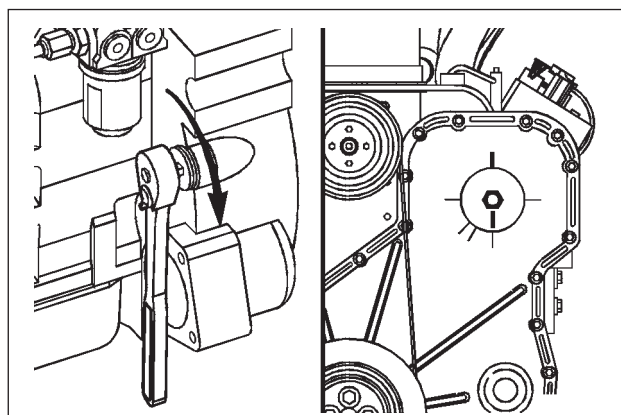

FIG. 4
11. Using the engine barring tool, Part No. 5299073, rotate the crankshaft 360 degrees to align the mark on the fuel pump gear with the mark on the gear cover that is 180 degrees away from top dead center (Fig. 4).